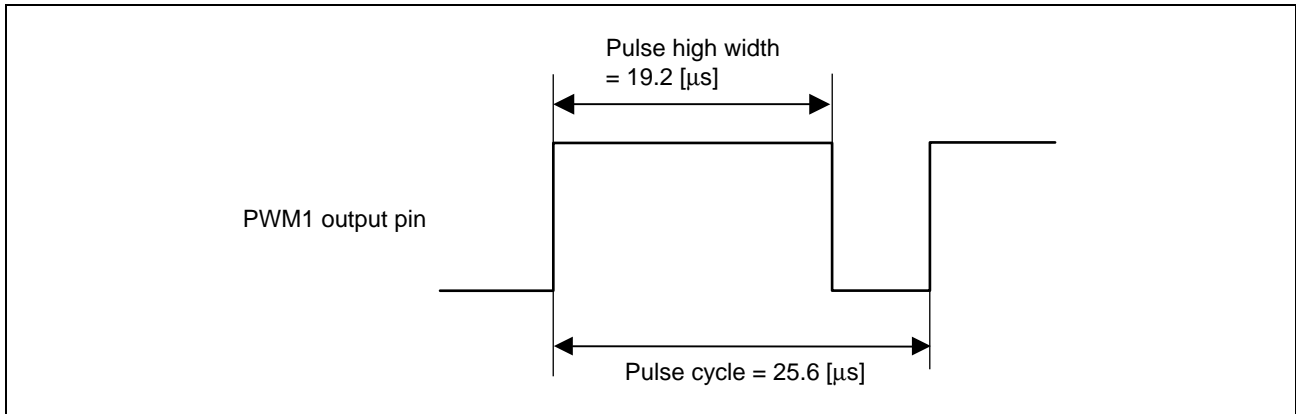

Figure 1 Duty Pulse Output Using 14-Bit PWM Function
- The 14-bit PWM output function is used to output duty pulses from the PWM1 output pin, as shown in figure 1.